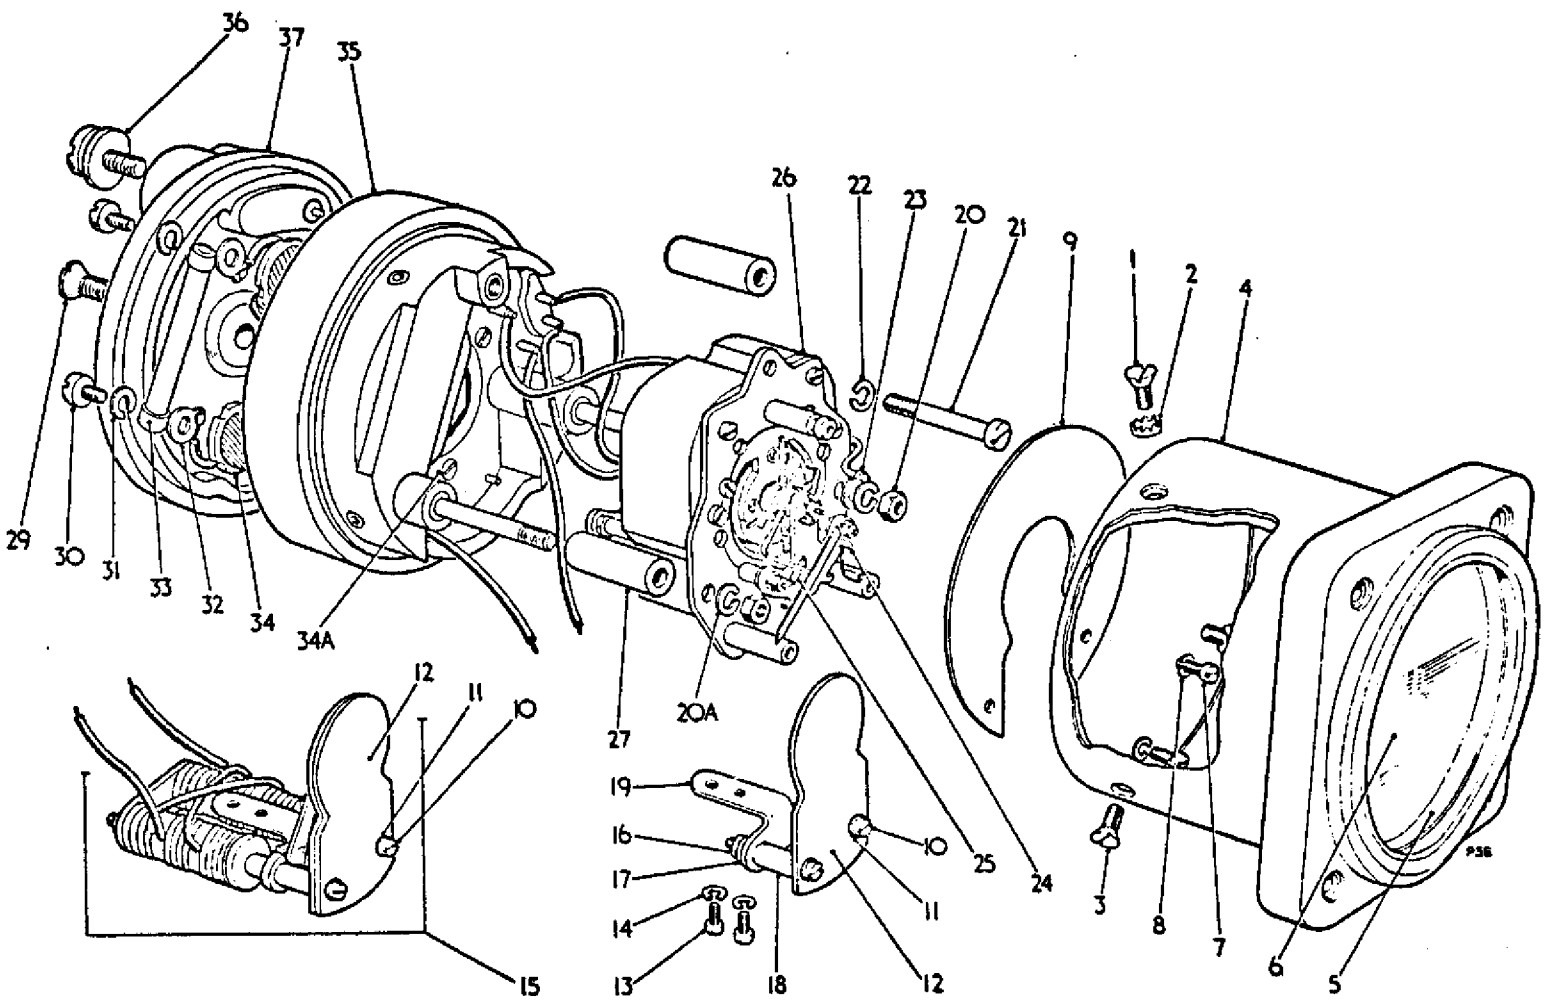

Fig. 1 Exploded view of indicator S.63 Form 4
B. Details (Refer to Fig.1)
KEY TO FIG. 1
B. Procedure (Refer to Fig.1)
(1) Remove sealing screw (1), cover seal (2), screw 3 (2-off) and withdraw cover (4).
(2) Remove scale securing screws (7) and lockwashers 8 (2 off-each item) and lift off outer scale (9). Care must be exercised when withdrawing the outer scale to prevent damage to the pointer.
A. Procedure (Refer to Fig.1)
- (1) Assemble spools (34) and resistor (33), when fitted, to original positions in recess of base (35) if these items have been disassembled.